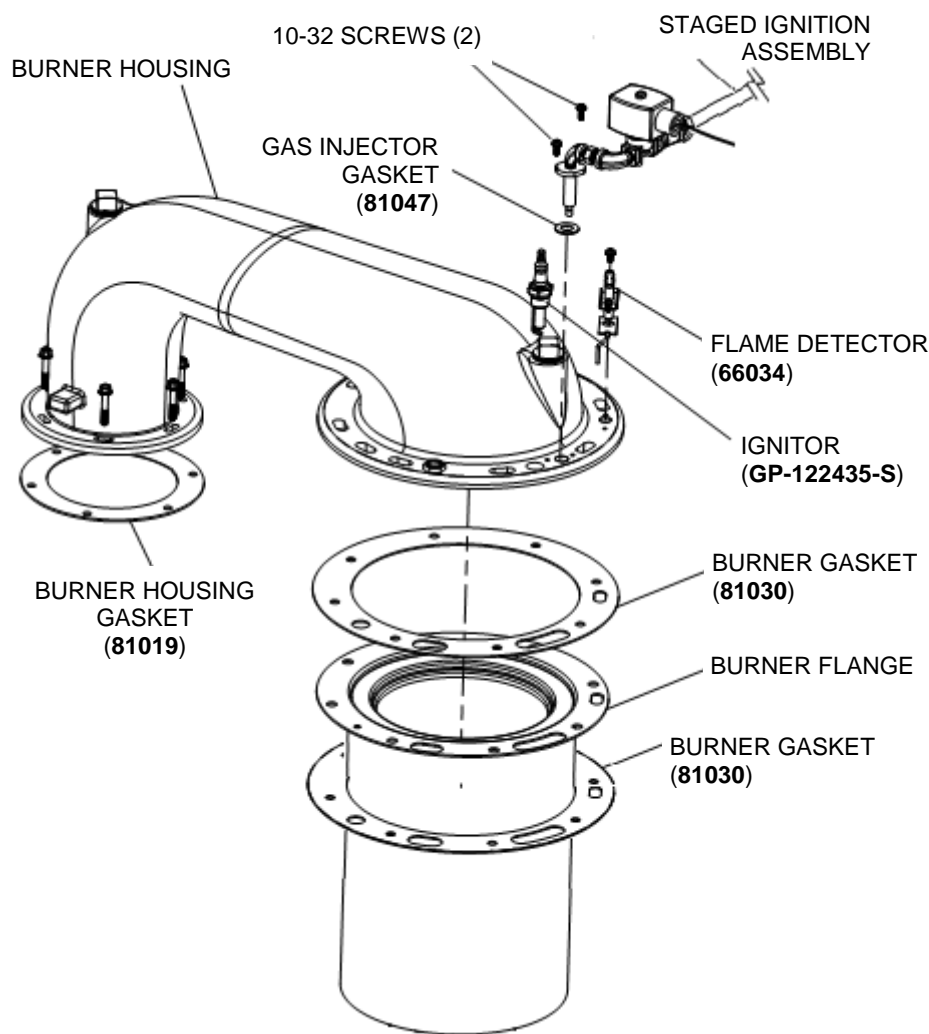

Figure 6. Benchmark 3.0LN Burner Assembly Exploded View
11. Remove the burner and two (2) burner gaskets by pulling straight up. Figure 6 shows an exploded view of the Benchmark 3.0LN burner assembly.
Referring to Figure 6, below, reassemble the burner assembly as described below. The following parts from the kit will be used during this procedure: